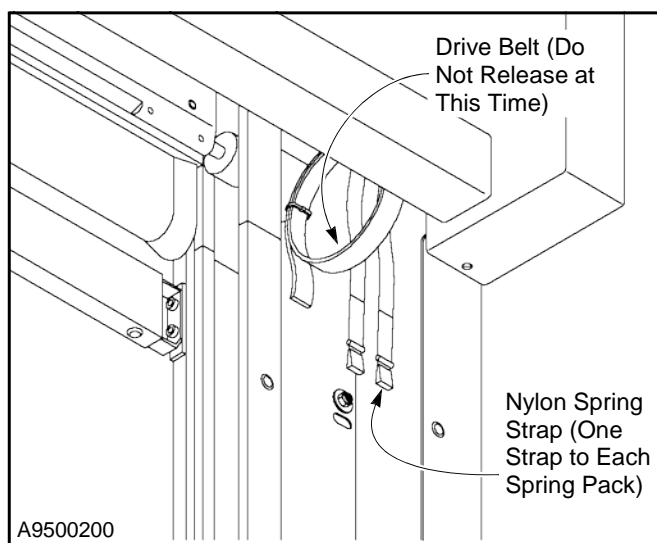

Figure 26
- Locate the nylon spring strap(s) on the end(s) of the drive shaft. They are located inside the head assembly. To lower the strap through the side column, first carefully cut the plastic cable tie securing the strap to the drive assembly. (See Figure 26.)